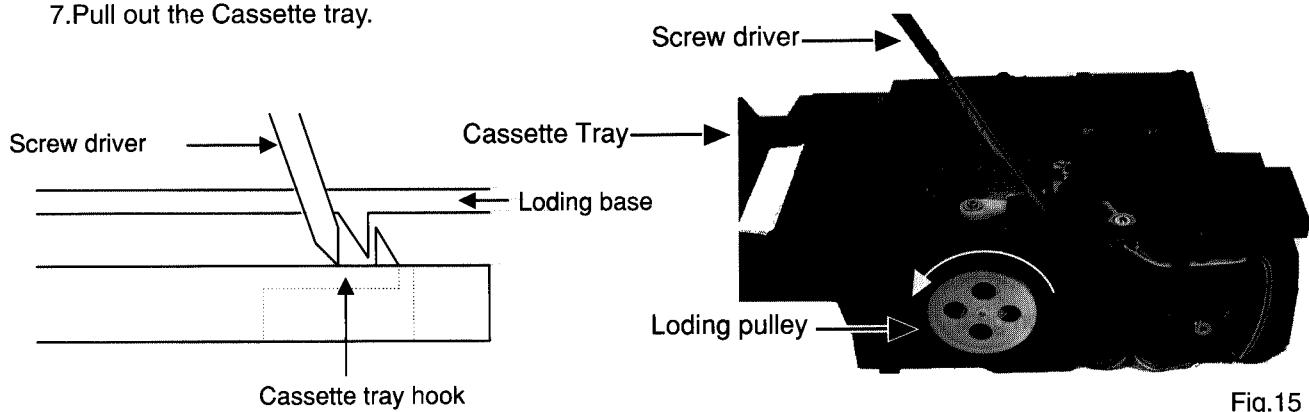

Fig.15
5. Rotate the loading pulley counterclockwise ,and open the Cassette tray.(Fig.15)